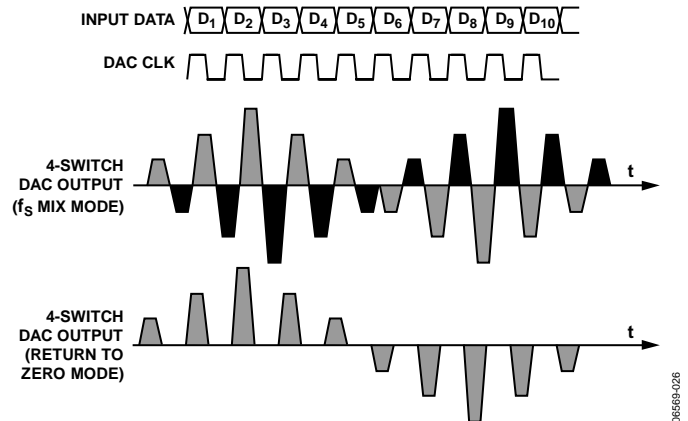

Figure 35. Mix Mode and RZ Mode DAC Waveforms
The quad-switch architecture also supports two additional modes of operation; mix mode and return-to-zero (RZ) mode. The waveforms of these two modes are shown in Figure 35. In mix mode, the output is inverted every other half clock cycle. This effectively chops the DAC output at the sample rate. This chopping has the effect of frequency shifting the sinc roll-off from dc to  $f_{DAC}$ . Additionally, there is a second subtle effect on the output spectrum. The shifted spectrum is shaped by a second sinc function with a first null at  $2 \times f_{DAC}$ . The reason for this shaping is that the data is not continuously varying at twice the clock rate, but is simply repeated.